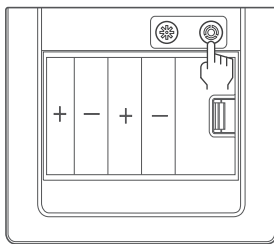

Figure 5
1. As shown in Figure 5, press "ⓘ" for 3 seconds. There will be a voice prompt "Vibration alert is on", indicating successful operation. Press the same button for another 3 seconds can turn the "Vibration alert" off.